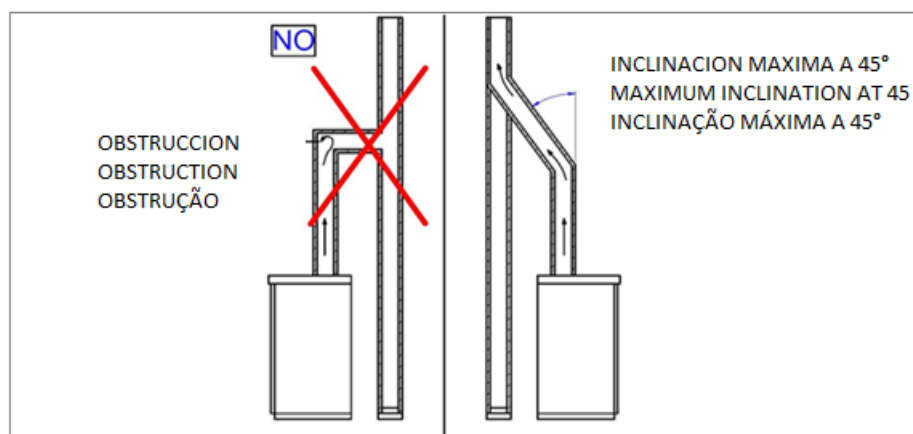

Figure 3
4. In the case of the mouth of the flue to an existing chimney that is not perfectly perpendicular to the smoke outlet of the home or for those cases in which the exit to the outside is made through the façade, the connection of the ducts must be made with the corresponding sloped joint. The inclination, with respect to the vertical, may not exceed 45° and must not suffer narrowing (See figure 3). For this purpose, approved 45° bends or elbows must be used. In addition, it is required that said curve be used from a minimum length of 2 m from the kitchen smoke outlet.